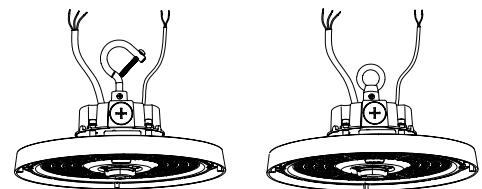

FIGURE 1
- Step 1. Screw the hook into the fixture, tighten and fix it. (figure 1)